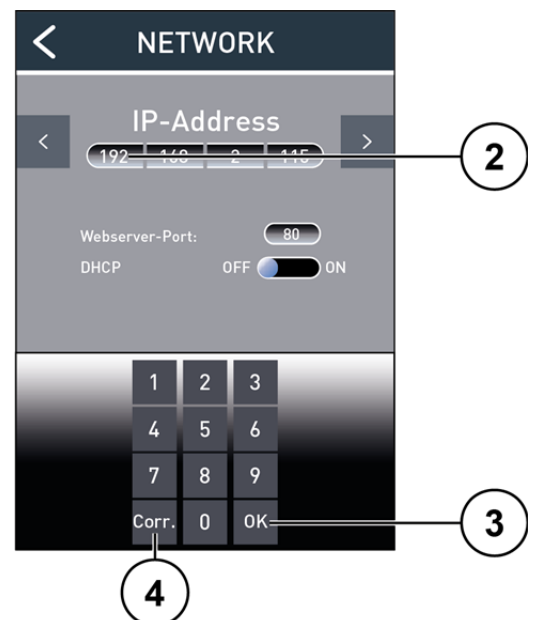

Fig. 19: 10-key keyboard
- Tip a number group of the *IP address* **(2)**. A keyboard with 10 keys is displayed (Fig. 19).